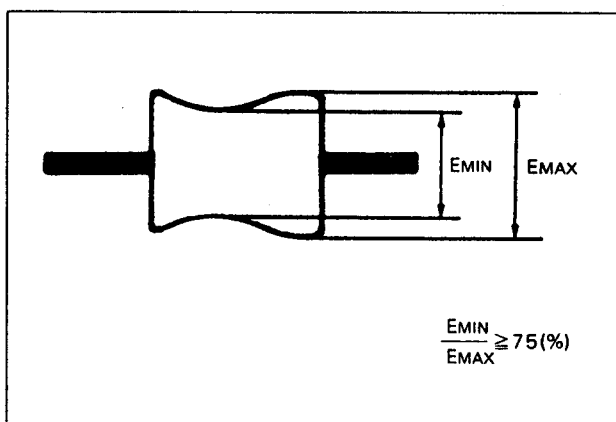

Fig. 2-45.
- 2) Make sure that the minimum amplitude (EMIN) is more than 75% of its maximum amplitude (EMAX) (See Fig. 2-45).